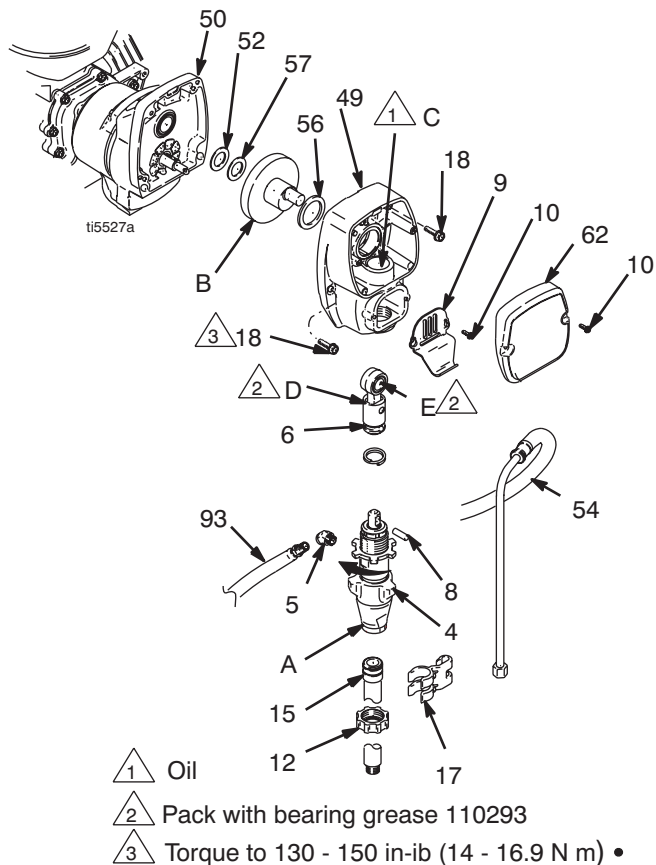

FIG. 1
2. FIG. 1. Remove screws (10) and front cover (62).
4. Remove four screws (18) from drive housing (49).
7. Install screws (18) in drive housing. Torque evenly to note 3 value in Fig. 1.